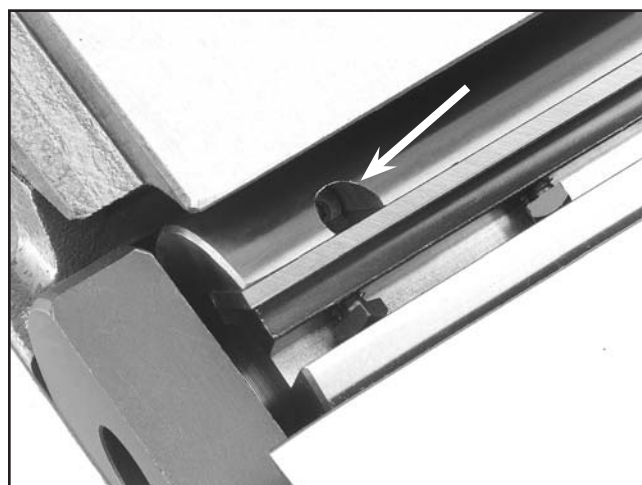

Figure 43. Jack screw access hole.
7. **Jack Screws**—Using a 3mm hex wrench, find the jack screws through the access holes in the cutterhead (**Figure 43**) and rotate the jack screws to raise or lower the knife. When the knife is set correctly, it will barely touch the middle pad of the knife setting jig. Snug the gib bolts tight enough to just hold the knife in place. Repeat **Steps 5-7** with the rest of the knives.